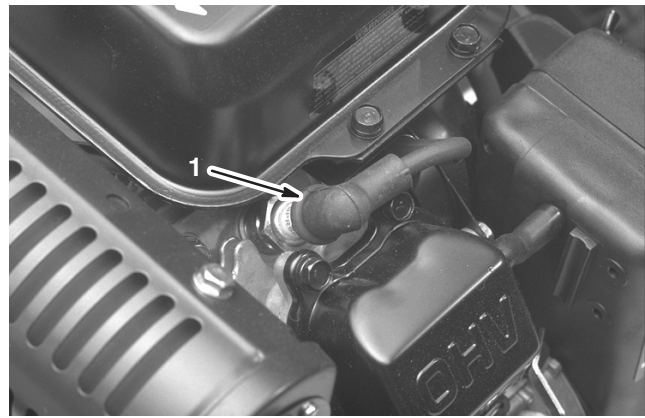

Figure 31
2. Clean around the spark plug and remove it from the cylinder head (Fig. 31)